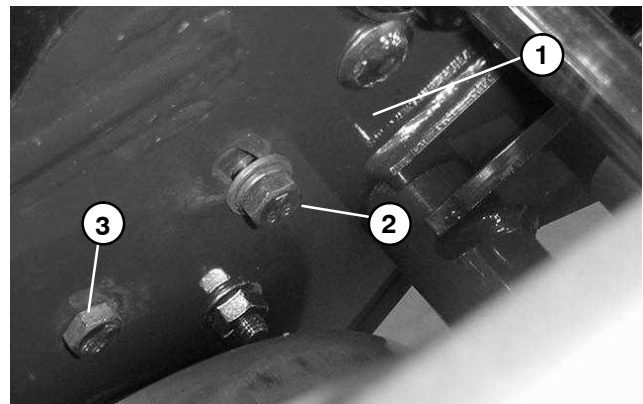

Figure 25
4. Remove cap screw, lock washer, and flat washer that positions the idler bracket to the side plate of the mower (Fig. 25).
4. Install cap screw, lock washer, and flat washer that positions the idler bracket to the side plate of the mower (Fig. 25).